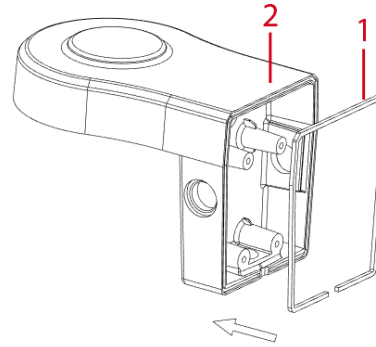

Figure 3
- B. Securely place the waterproof washer (1) (Fig. 3) into the wall mount bracket (2) (Fig 3).